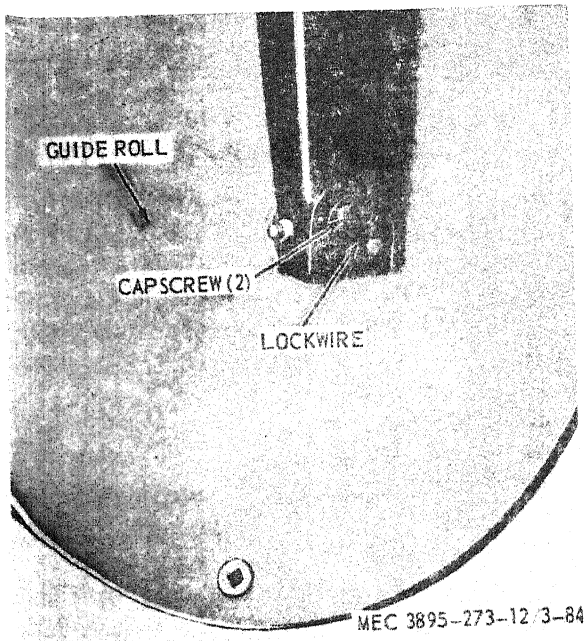

Figure 3-79. Guide roll adjustment.
a. For initial adjustment after maintenance on guide rolls, axle, or bearings, tighten capscrows equal number of turns at both ends of axle (fig. 3-79). Then tighten capscrows firmly at one end of axle. If extreme torque is applied to capscrows, the roll will bind. Secure adjustment with lockwire.
- (1) Guide roll adjustment. See figure 3-79.